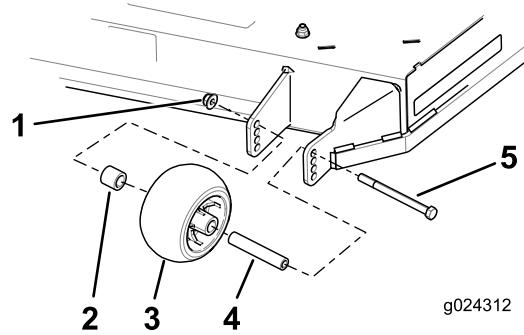

Figure 23
- Remove the flange nut, anti-scalp roller and bolt from the bracket (Figure 23).
- Align the bolt and anti-scalp roller in the hole of the bracket that matched the closest height of cut position (Figure 23).
- Insert the bolt into the bracket hole and secure the bolt and anti-scalp roller with the flange nut (Figure 23).